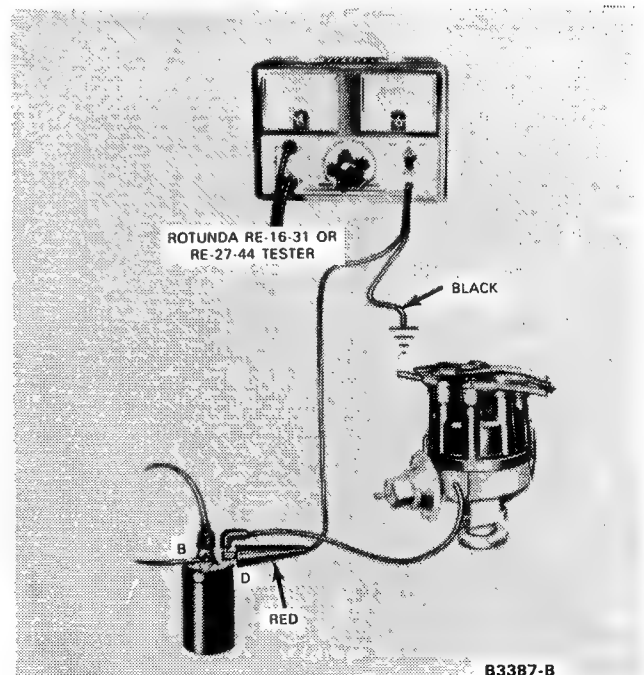

FIG. 7 Coil to Ground Test
1. Connect the voltmeter leads as shown in Figure 7.